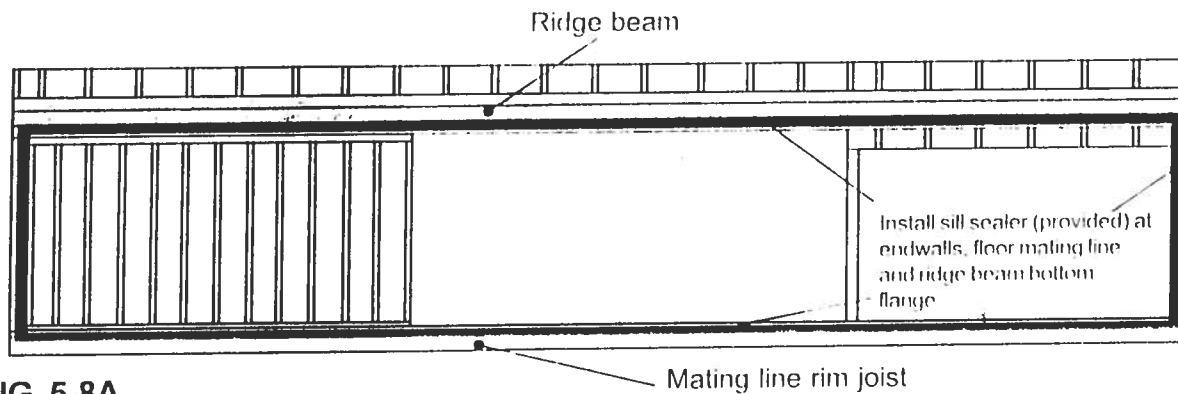

FIG. 5-8A
3. Install sill sealer insulating material (provided) around the home (to the ridge beam at the ceiling panel line), endwalls and/or mating line. Fasten sill sealer with staples or nails. See Figure 5-8A.